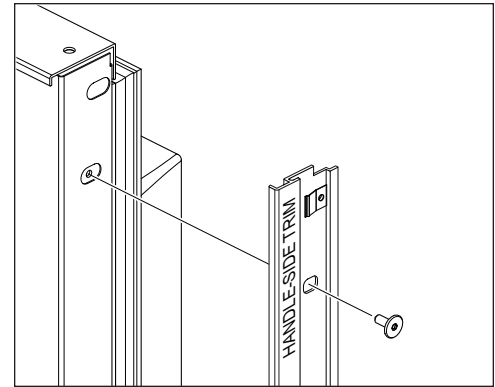

Figure 2. Handle-Side Trim Removal
2. With a T-20, 6-lobe Torx type bit, extract the handle-side trim mounting screws and pull the trim from the door (See Figure 2).